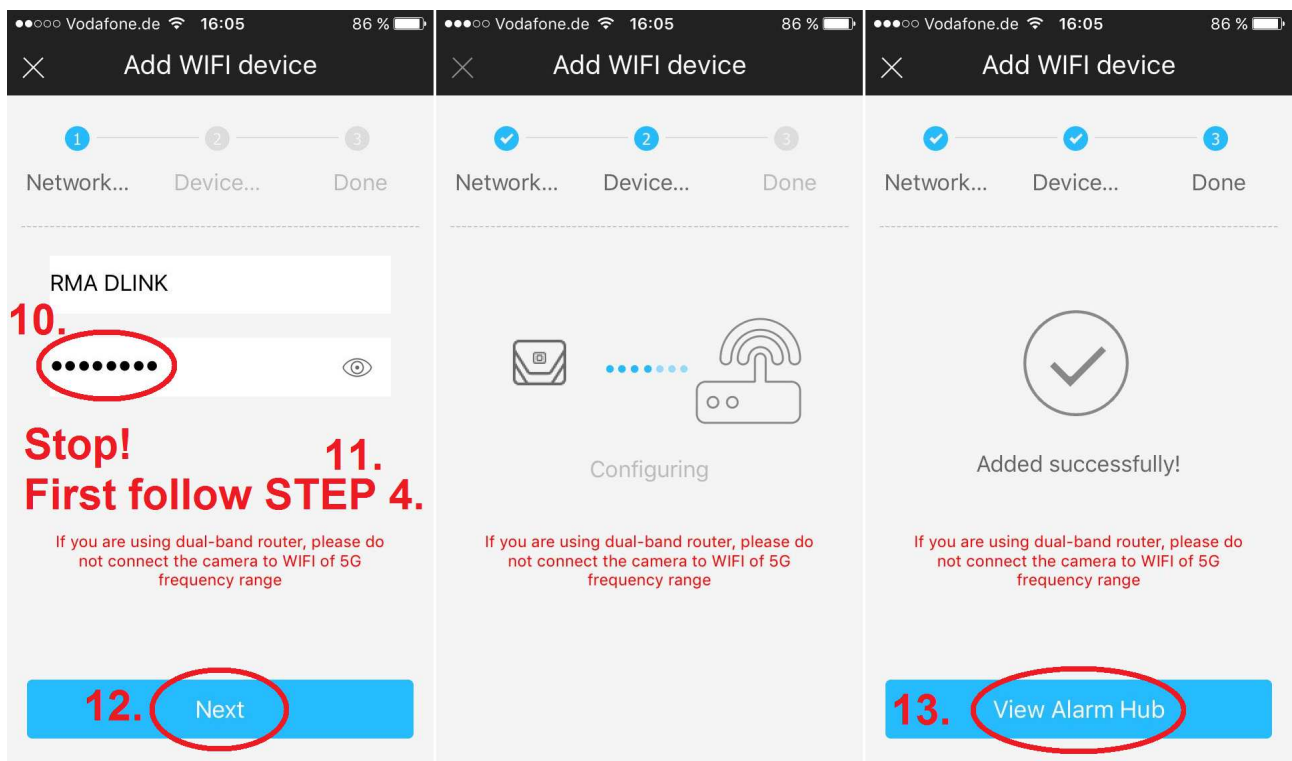

Figure 5-4
Step 3. Input Basis Station name (4), click the icon of QR code (5), and scan the QR code on the back of the Basis Station. Username (6) and Password (7) are admin. Also enable subscribe for getting Push Notifications (8). Click “Next” (9) after it is successfully recognized, input WIFI password (10) (WiFi key of the router). See figure 5-4. **STOP!** Go on with Step 4.
Step 4. (11) Long press the function key (No.2) of Basis Station for 6 seconds and the blue LED flashes slowly. **1 = Power indicator; 2 = Function key**